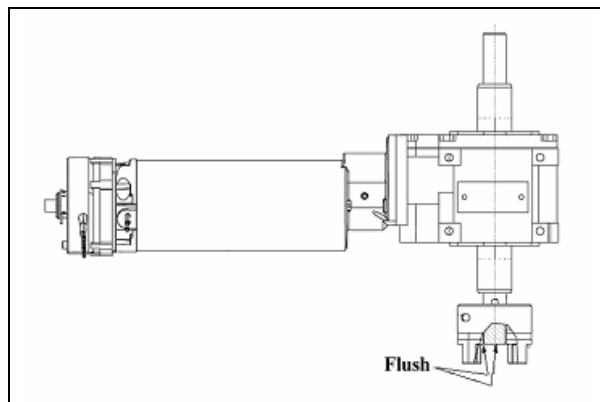

FIGURE 19: CLAMPING HUB POSITION ON GEARBOX SHAFT
6. Install a clamping hub on one of the gearbox shaft (opposite side of gearbox mounting bolts) flush with the shaft extremity (FIGURE 19). Tighten the clamping screw to a torque of 18 lbf-ft.
7. Install the second clamping hub on the gearbox shaft. Position the clamping hubs so that they are flush with the shafts extremity (see FIGURE 19).